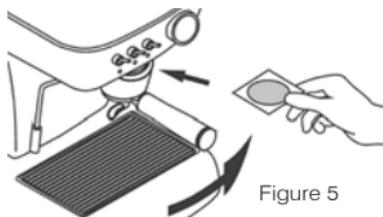

Figure 5
- Place a tablet on the filter holder and turn it gently to the right as far as it will go. Do not force it, closure is smooth. (See figure 5).